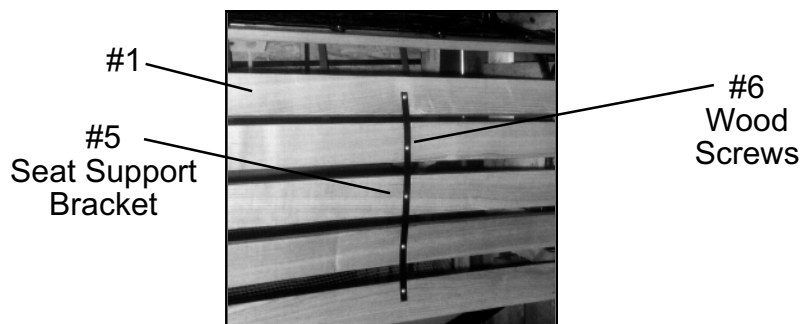

**Figure 1**
1. Assemble the five Seat Slats (#1) to the Cast Iron End Pieces-Right and Left (#2). Attach with ten Bolts and Nut Pairs (#3). Hand tighten. **See Figure 1 & 2.**